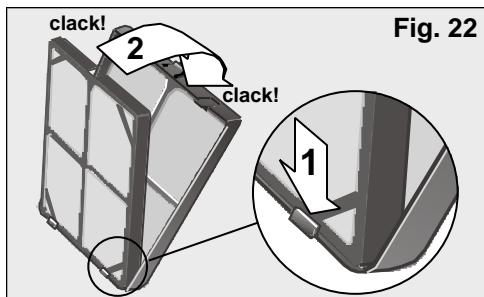

Fig. 22
- Insert the double active filter + positioner in the basic filter as shown on **Fig. 22**, remembering that it must be housed on the lower studs first.